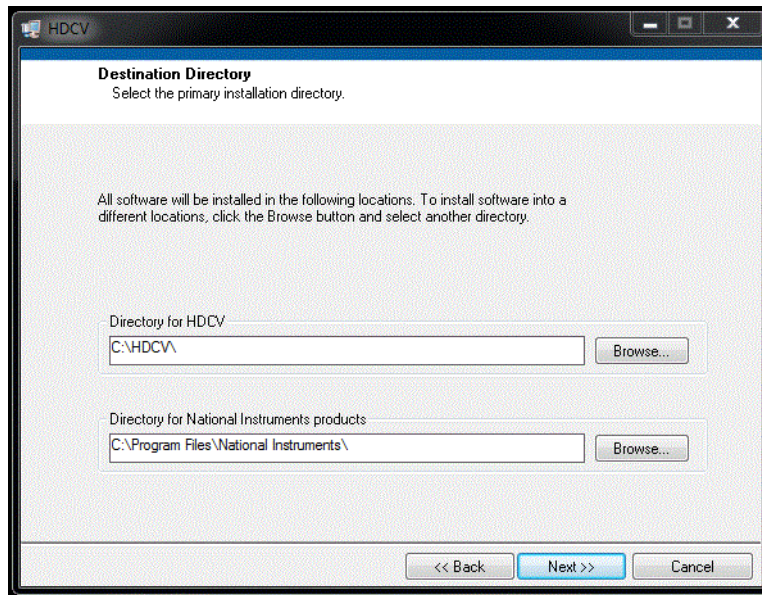

Figure 4-7: HDCV Installation – Step 1
8. Select and run the setup application file provided. After starting the file a series of dialog boxes will appear. First, select a directory for HDCV (see: Figure 4-7).